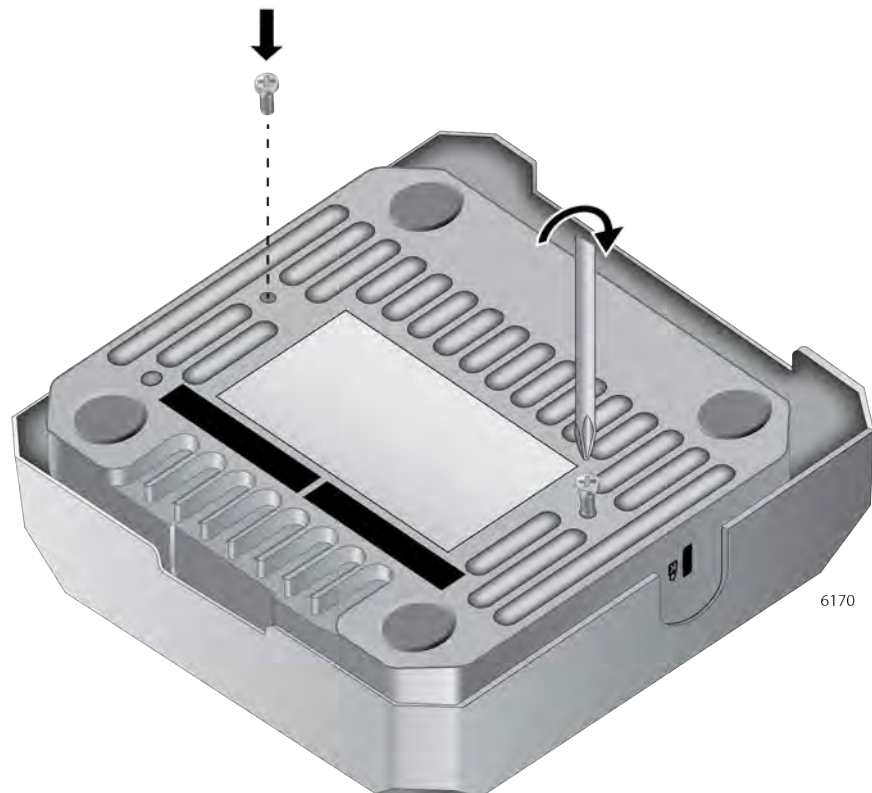

Figure 9. Attaching the Bracket Screws to the Access Point
2. Install the two screws (provided) fully into the bottom panel of the access point. See Figure 9.